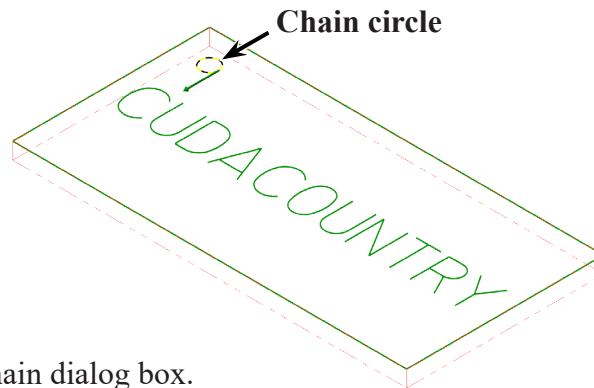

Fig. 16
Step 4. Click circle, **Fig. 16**.